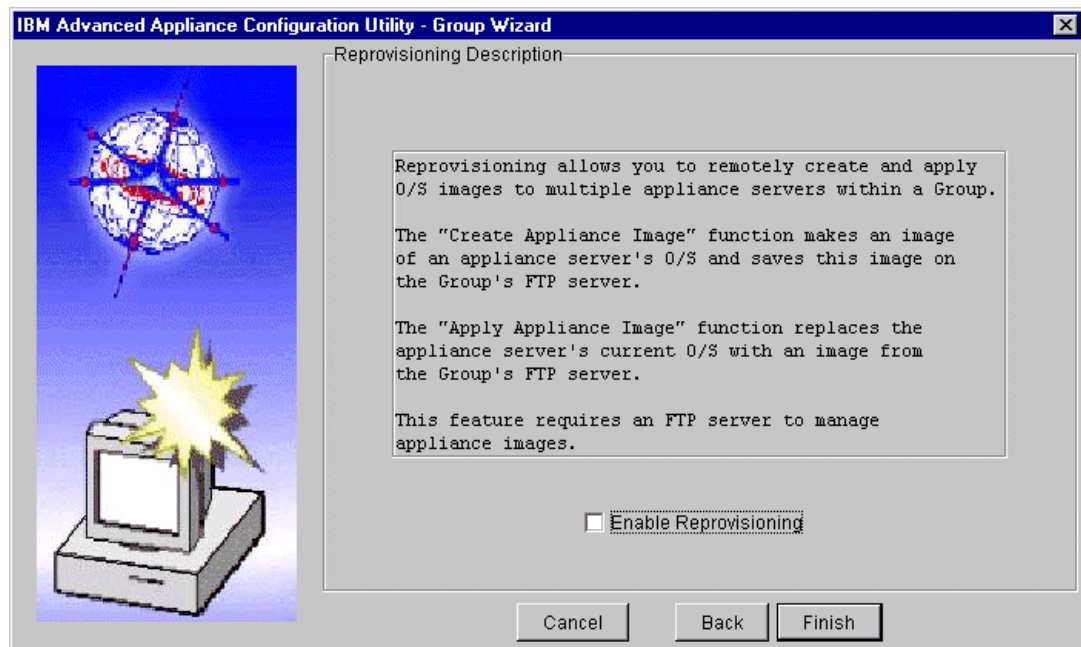

Figure 2-11 Enabling reprovisioning
8. Enter a domain name if desired, and click **Next** to continue. Figure 2-11 now appears.